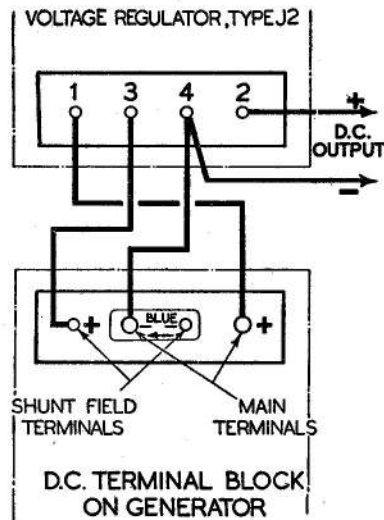

Fig. 7. Diagram of external d.c. circuit connections for clockwise rotation of generator
9. The d.c. terminal block is mounted on the commutator end frame, and has four terminals. A special arrangement of terminals is provided, to enable the direction of rotation of the generator to be reversed. Looking at the d.c. terminal block from the commutator end of the machine, one end of the shunt field winding is attached to the small terminal on the left-hand side; the external field connection is always made to this terminal. The other end of the shunt field winding is attached to the small terminal between the two main terminals. A flat metal link is provided to connect this field terminal to one or other of the main terminals according to the direction of rotation required. The change in rotation is obtained by turning the link over so that the arrow stamped on its upper face indicates the direction of rotation required. It will be seen from fig. 7, which shows the d.c. connection to the voltage regulator for either direction of rotation, that the polarity of the main terminals is reversed when the